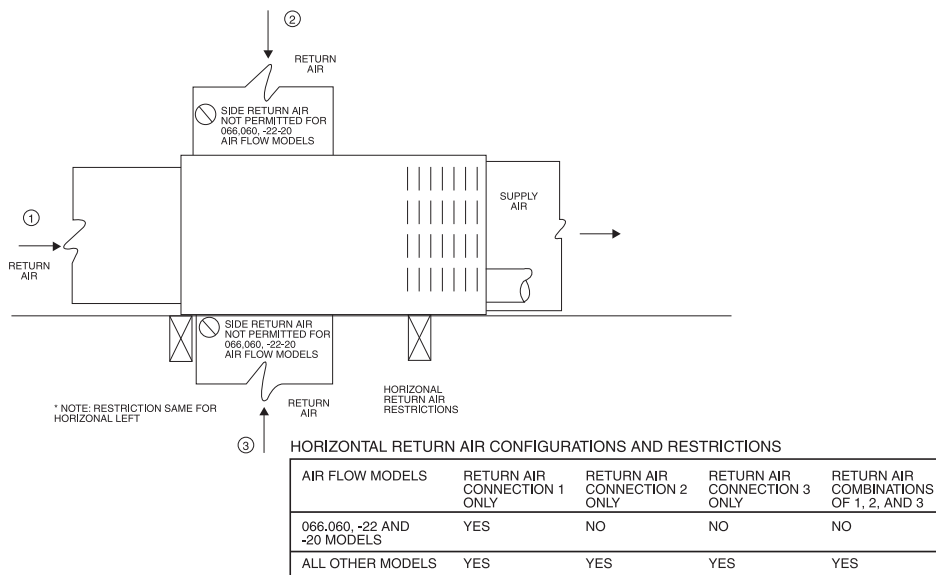

Fig. 20 - Horizontal Return Air Configurations and Restrictions
20.) Not all horizontal furnaces are approved for side return air connections. (See Fig. 20.)